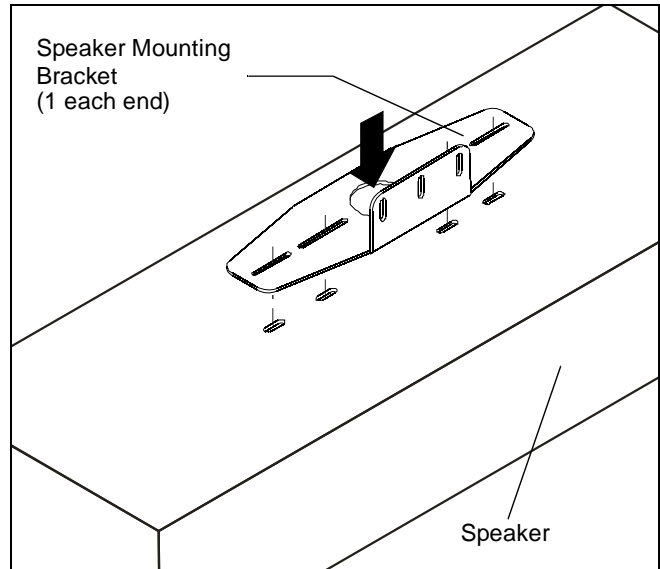
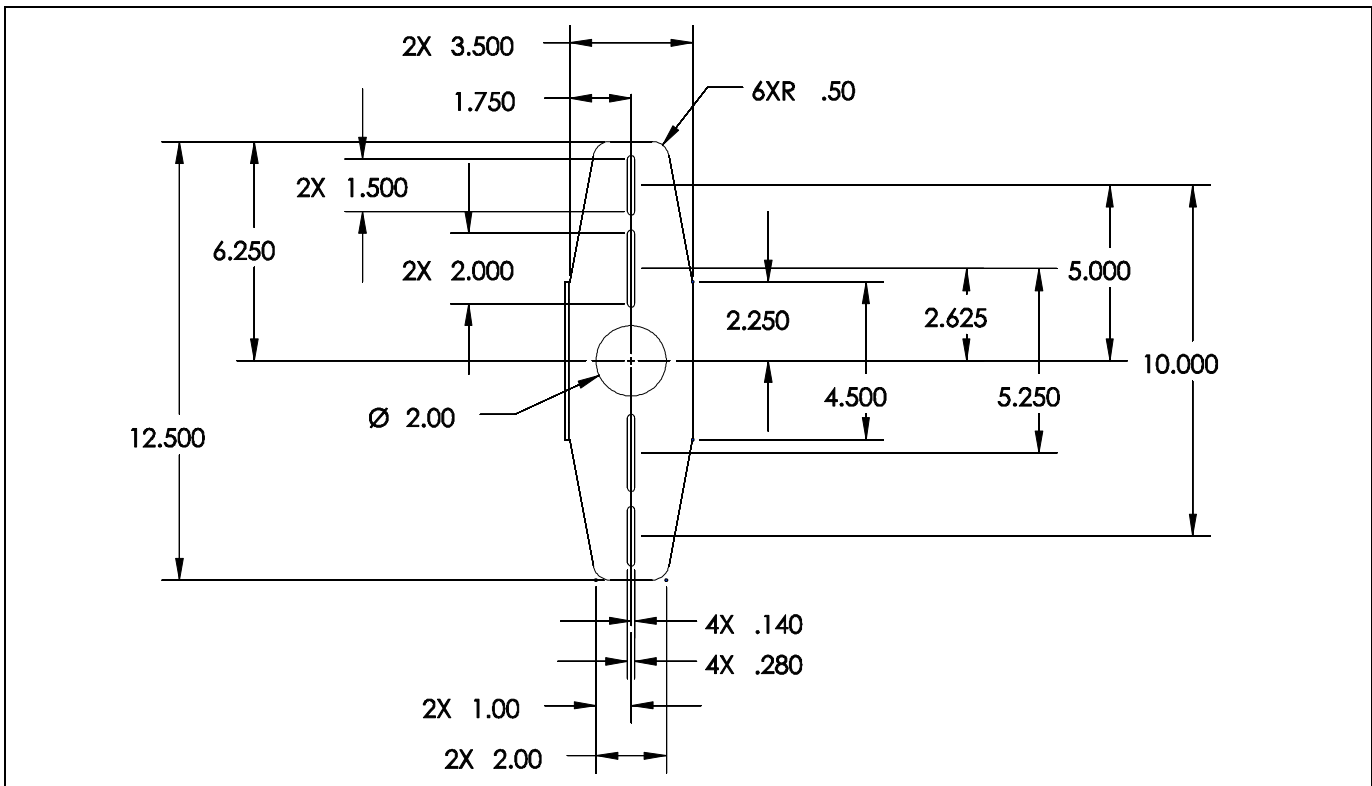

Figure 7
Figure 8
3. Install left and right speaker mounting brackets to speakers using the installation instructions provided with the speakers and the dimensional drawing below. (See Figure 7) and (See Figure 8)